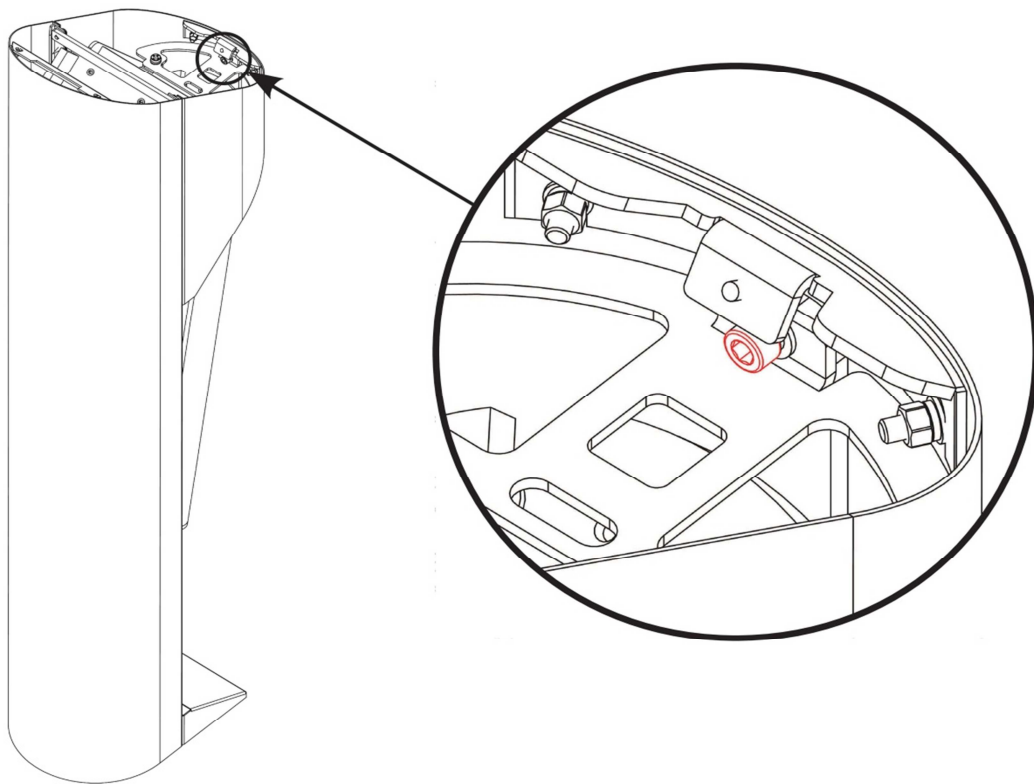

Fig. 9
- Remove M6 GOST11738-84 screw (Fig. 9);